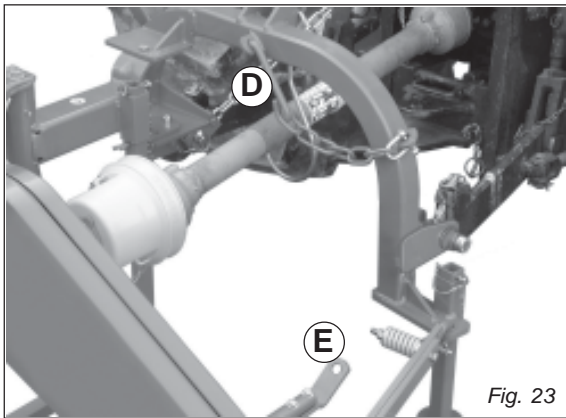

Fig. 23
- Remove safety hook (D, Fig. 23), required only for transportation, and fit it back in the slot positioned above the chasis. Reduce to the minimum length in order to hook it in (E, Fig. 23) with the sickle bar to lower.